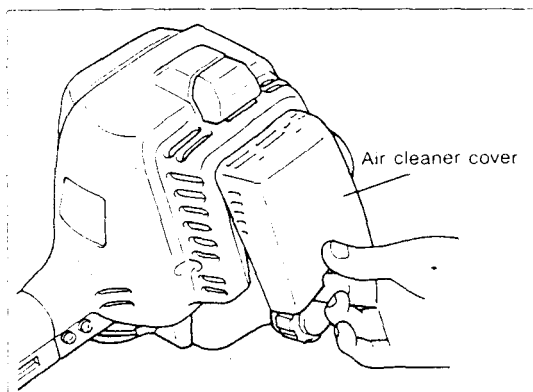

Fig. 27
- i). Remove the air cleaner cover. Clean the sponge element and remove any excessive dust or dirt adhering to the cleaner (Fig. 27 and 28). A clogged air cleaner may make it difficult or impossible to start the engine or to increase the engine rotational speed